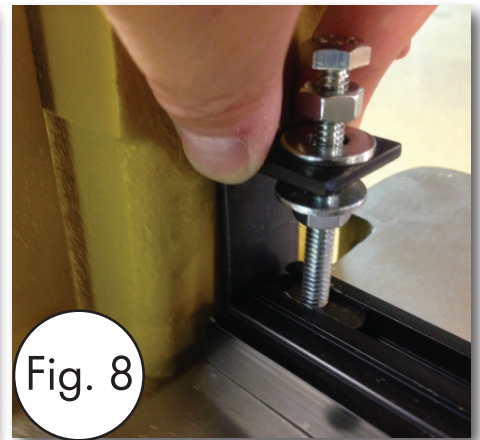

Fig. 8
3. Loosen both hex nuts until you can insert the clamps black t-nut into long extrusion "T" channel. Next, tighten the hex bolt until it bottoms out in the channel (Fig. 8).